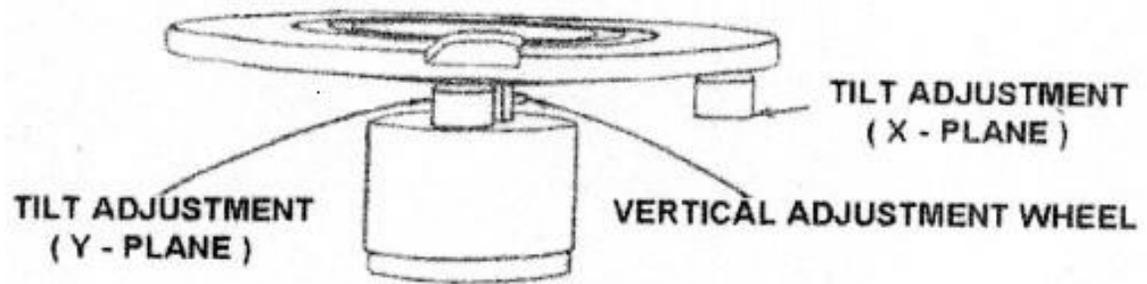

Figure 11.4 - Sample Stage Layout
- 9.2.6 Locate the X and Y plane adjustment knobs, and vertical adjustment wheel below the sample stage, see Figure 11.4.